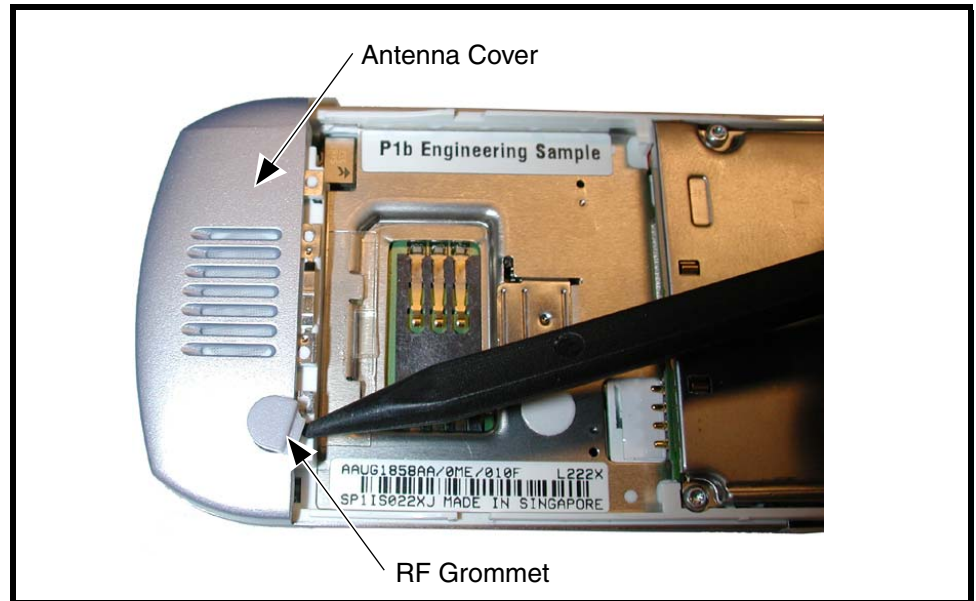

Figure 7. Removing and Replacing the RF Grommet
2. Use the disassembly tool to gently pry off the RF grommet located on the antenna cap (see Figure 7).